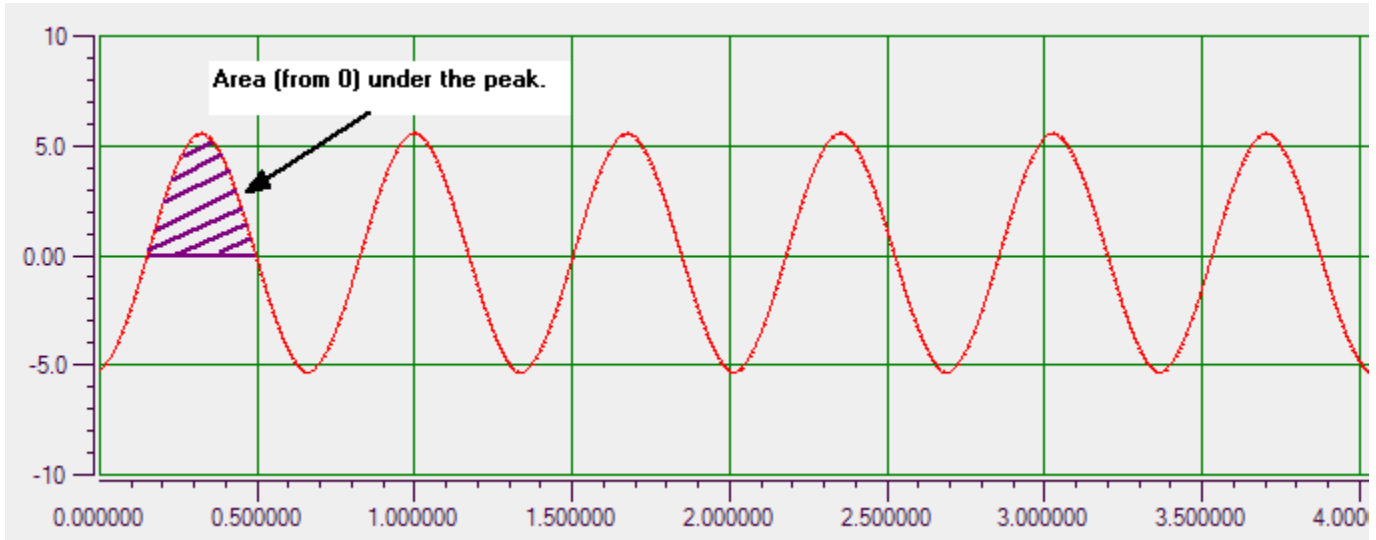
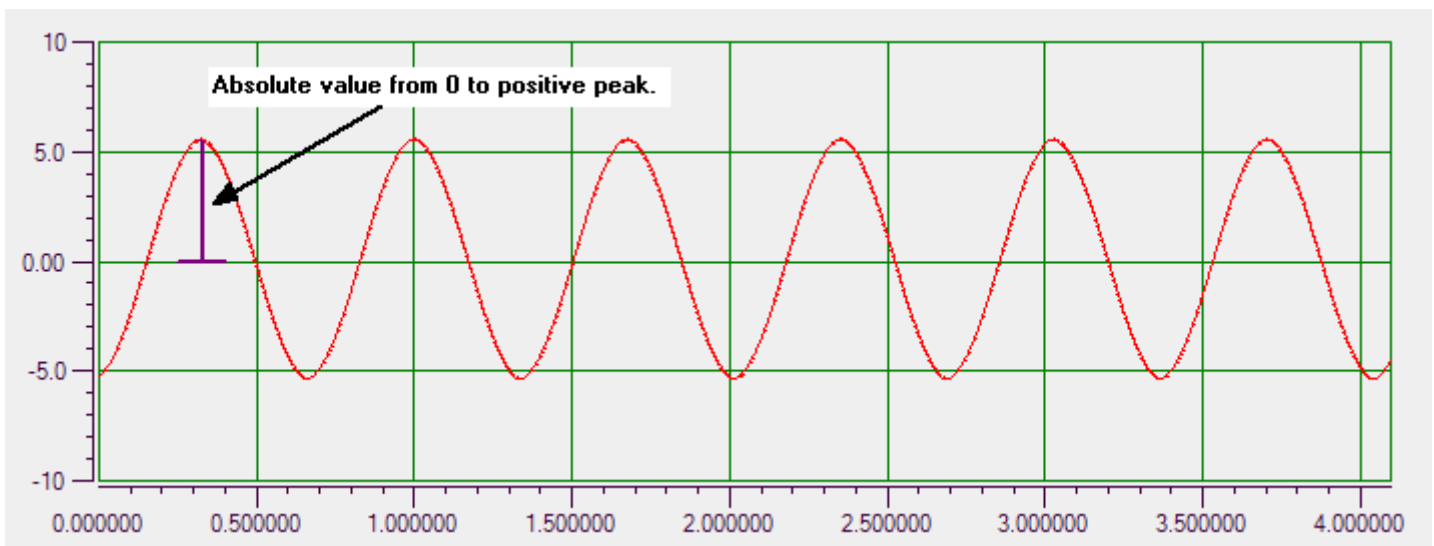

Figure 35: RMS (Square Root of the Average of the Squares)
Figure 36: Peak (Zero to Peak)
- **RMS, Peak, or Pk-Pk** – Allows you to scale the FFT data using **RMS** (the square root of the average of the square of the value of the function taken throughout one period, as shown in Figure 35), **Peak** (zero to Peak, as shown in Figure 36), or **PeakPeak** (the absolute value of the data from the negative peak to the positive peak, as shown in Figure 37).